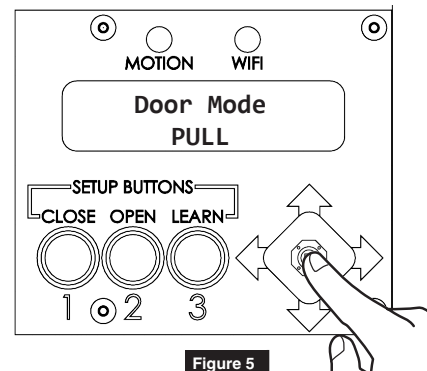

Figure 5
2. Depending on your application, select PUSH or PULL by moving joystick LEFT or RIGHT. (Figure 5)